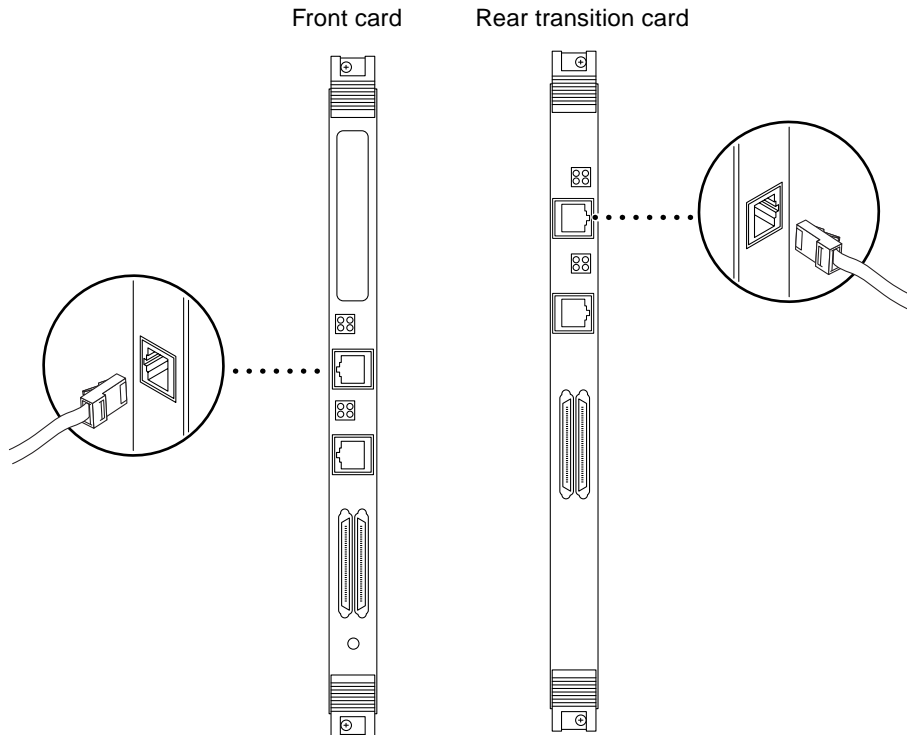

FIGURE 3-2 Connecting Cables to the Ethernet Ports
2. **Connect one end of an Ethernet cable to an Ethernet port on the adapter** (FIGURE 3-2).